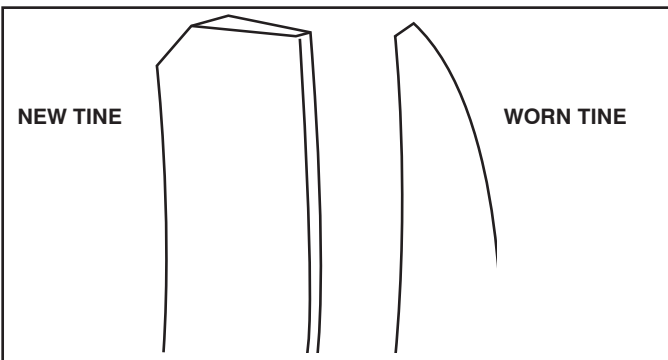

Fig. 25
TINE REPLACEMENT (See Figs. 25, 26 and 27)
- New tines should be assembled as shown in Fig. 25. Sharpened tine edges will rotate rearward from above.